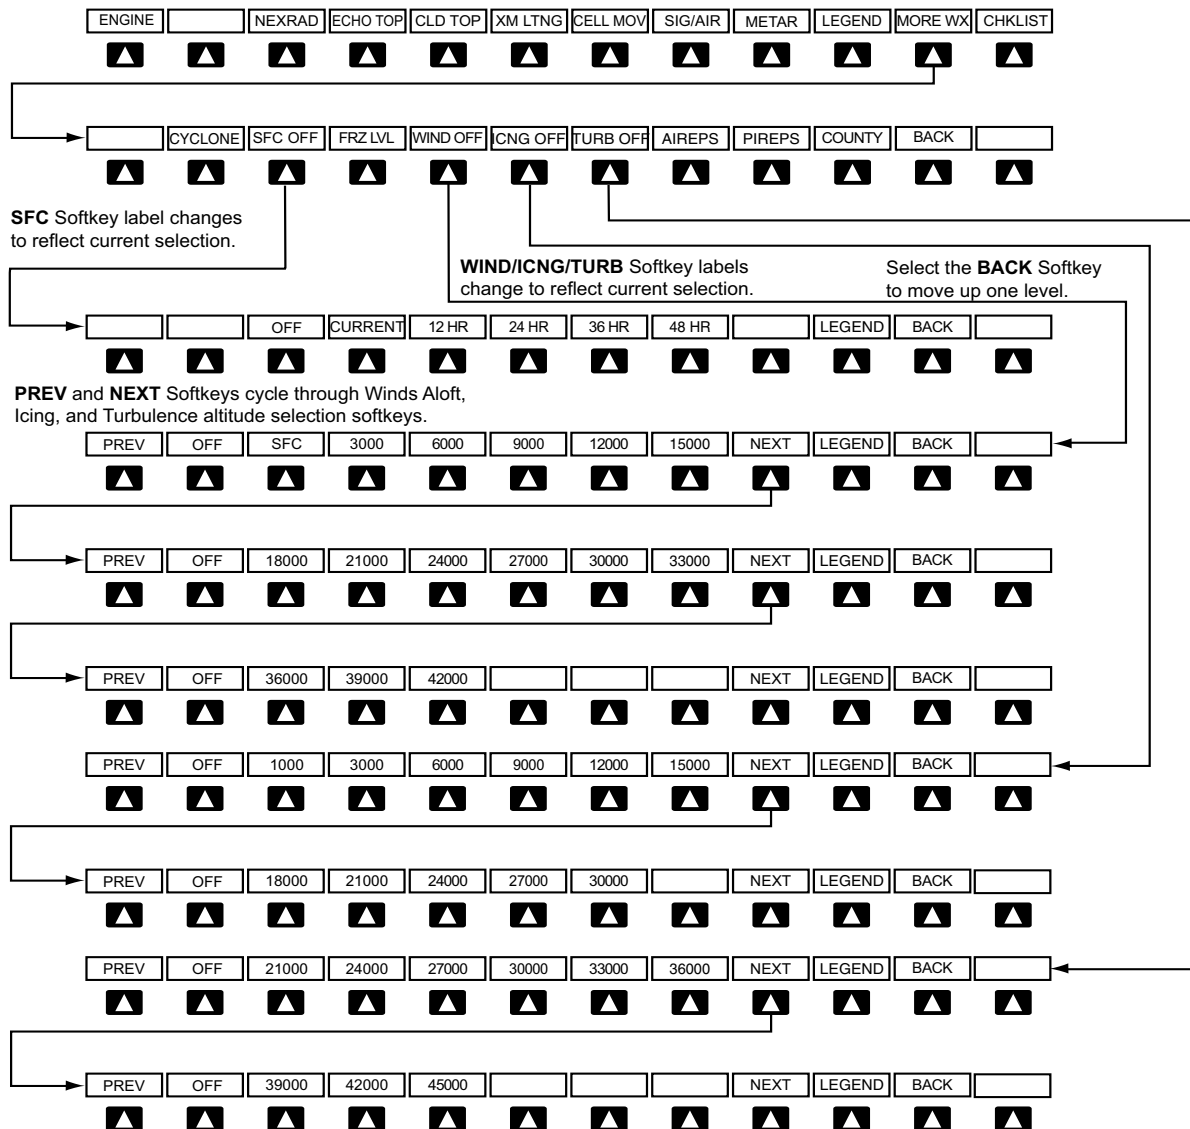

Figure 6-3 Weather Data Link (XM) Page Weather Product Softkeys
Softkeys control the display of weather information on most MFD pages (Figure 6-3 shows the weather product softkeys for the Weather Data Link (XM) Page). When a weather product is selected for display, the corresponding softkey label changes to gray to indicate the product is enabled.